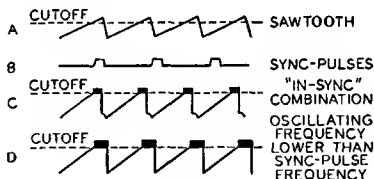

Fig. 67
across the capacitor C_2 . A portion of this sawtooth is fed back to the grid of the control tube, V_1 . The positive sync pulses are also applied to the grid of V_1 . The waveforms shown in Fig. 67 illustrate the sawtooth and sync pulses (A and B) and their proper "in-sync" combination (C). The sync pulse occurs partly during the portion of the sawtooth voltage in which the triode V_1 draws current. Any shift in sync pulse as it is superimposed on the sawtooth, therefore, will affect the amount of conduction of the control tube. A change in control-tube conduction ultimately affects the bias on the oscillator-tube grid by changing the voltage to which the capacitor C_1 in the cathode circuit may charge. An increase in the positive bias increases the frequency of oscillation.
For example, waveform D in Fig. 67 illustrates a condition in which the sawtooth voltage is advanced in phase with respect to the sync-pulses. The